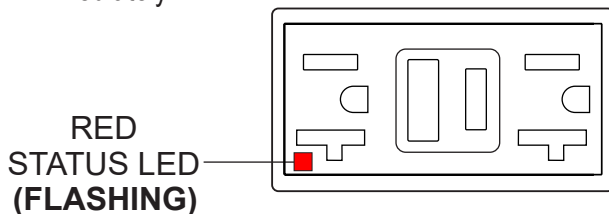

Figure 81. GFCI Receptacle (RED Flashing LED)
6. If the status LED (Figure 81) is **flashing (RED)**, **DO NOT** use the GFCI receptacle and replace it immediately.